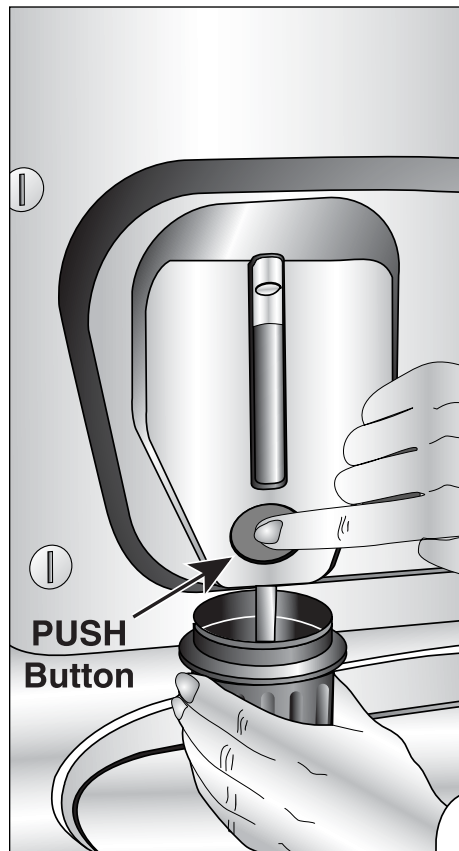

Figure 2
7. Place the cap of your detergent bottle under the "PUSH" button. Fill the cap with detergent from the dispenser as full as you would for most of your loads by pressing and holding the "PUSH" button (figure 2). Place the detergent from the cap either in the tub or back in the dispenser.